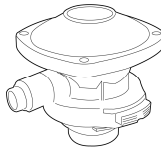

Figure 3
- SA 5000 (Figure 3)
- SA 5000 Zénith (Figure 3)